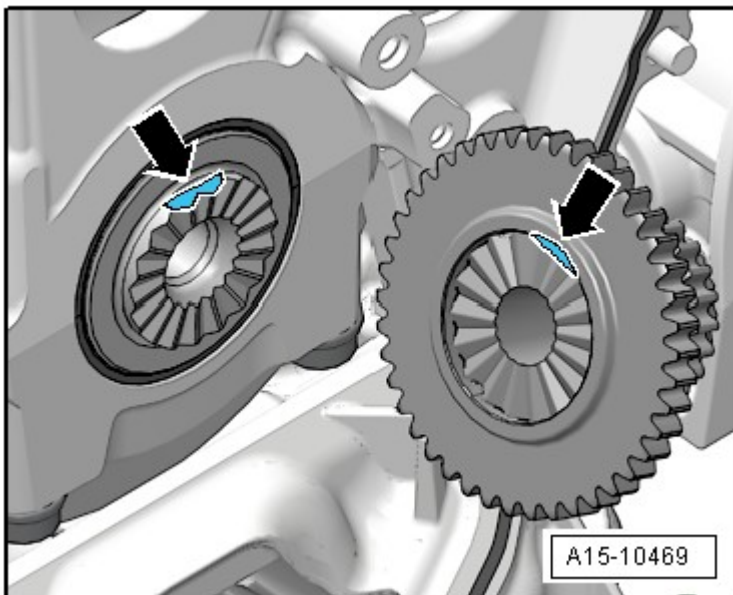

Fig. 8: Identifying Chain Sprocket Crankshaft, Installation Position
- Installed location, refer to **Fig. 8**
- Installed location, refer to **Fig. 8**.